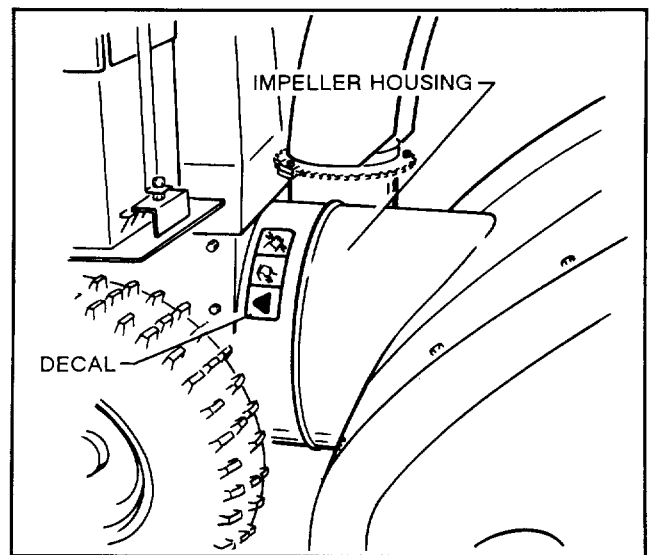

Figure 15
28. Retain all loose wires with tie straps and install warning decal on impeller housing (Fig. 15).